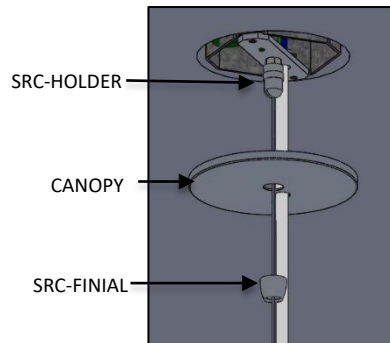

FIG. 33 – FINIAL INSTALLATION
10. Raise CANOPY and secure to ceiling by threading the SRC-FINIAL to SRC-HOLDER.as shown below in FIG.33.